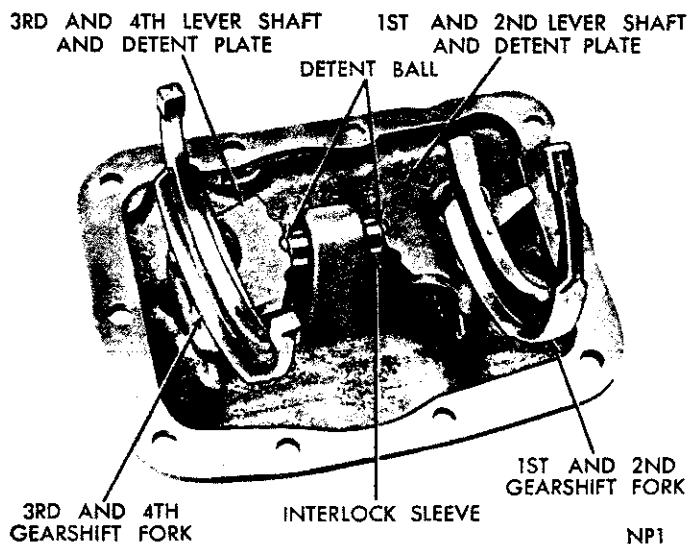

Fig. 19—Shift Housing Assembly
(1) Remove reverse shift lever from shaft. Remove bolts that attach gearshift housing to transmission case (Fig. 19). With levers in neutral detent position, pull housing out and away from the case. (The first and second, third and fourth shift fork may remain in engagement with synchronizer sleeves.) Work forks out of sleeves and remove from the case.